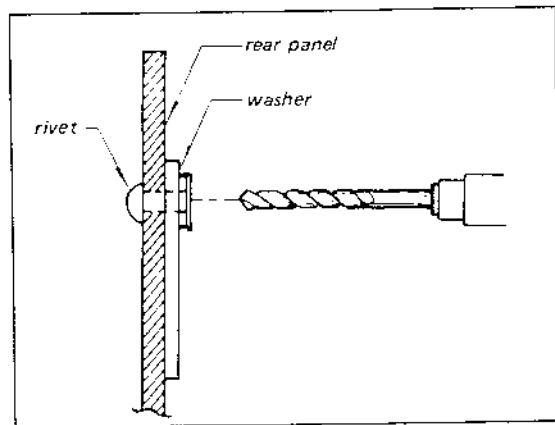

Fig. 2-16. Rivet replacement
2. Bore out the rivets using a drill bit slightly larger in diameter than the rivet. See Fig. 2-16.